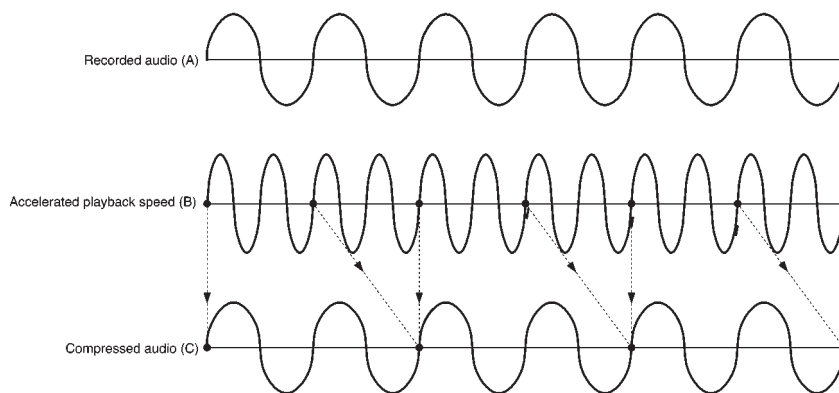

Fig. 5
(2) Principles of audio compression (see Fig. 5)